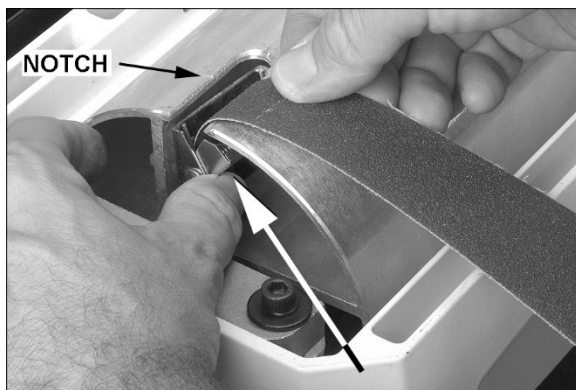

Figure 6-8
1. Press fastener lever (Figure 6-8) on outboard (left) end of drum, and insert tapered end of abrasive through slit in fastener, as shown. Align tapered edge of abrasive strip with left edge of drum. Insert enough strip so that the right edge aligns with the reference notch; this will ensure the proper length of strip to be secured at the opposite end of the drum.